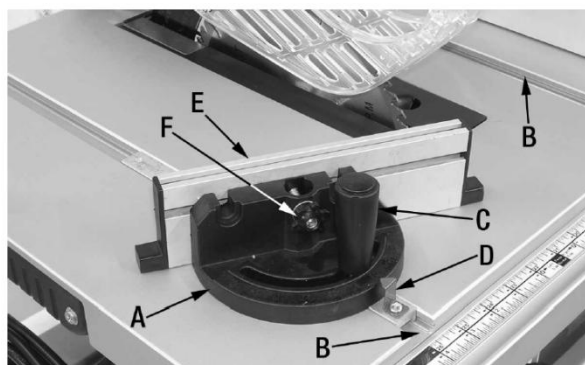

FIGURE 12
When crosscutting with the blade set at 90° or 45° to the table, the mitre gauge (A) **Fig.12** can be used in either the right side or left side T-slot (B) on the table. When crosscutting with the blade tilted, use the right sided T-slot of table where the blade is tilted away from your hands and mitre gauge.
1. Slide the mitre gauge bar into one of the T-slots (B) in the table.
2. To adjust the mitre gauge, loosen lock handle (C) and set the mitre gauge (A) so the indicator (D) aligns to the desired cutting angle, then retighten lock handle (C) Fig.12.
3. This mitre gauge comes with an aluminum facing (E) which can be removed if desired by removing lock knob (F). Fig.12.